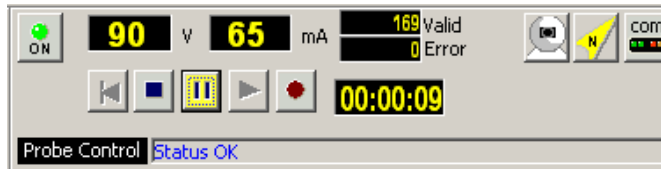

Fig. 1.5D Recording paused
**Pause recording** (fig.1.5d) recording can be temporarily halted by clicking on the pause button . To continue recording, either click again on the pause button or click on the record button.